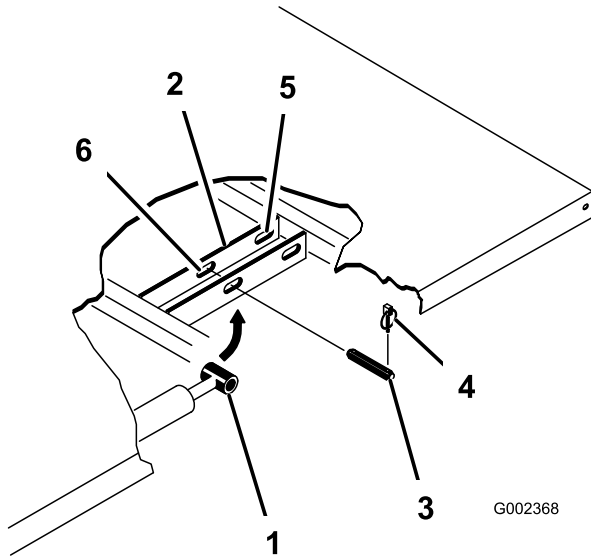

Figure 34
3. Remove the lynch pins from the outer ends of the cylinder-rod clevis pins (Figure 34).
4. Remove the clevis pins securing the cylinder-rod ends to the bed-mounting plates by pushing the pins towards the inside (Figure 34).
5. Remove the lynch pins and clevis pins securing the pivot brackets to the frame channels (Figure 34).